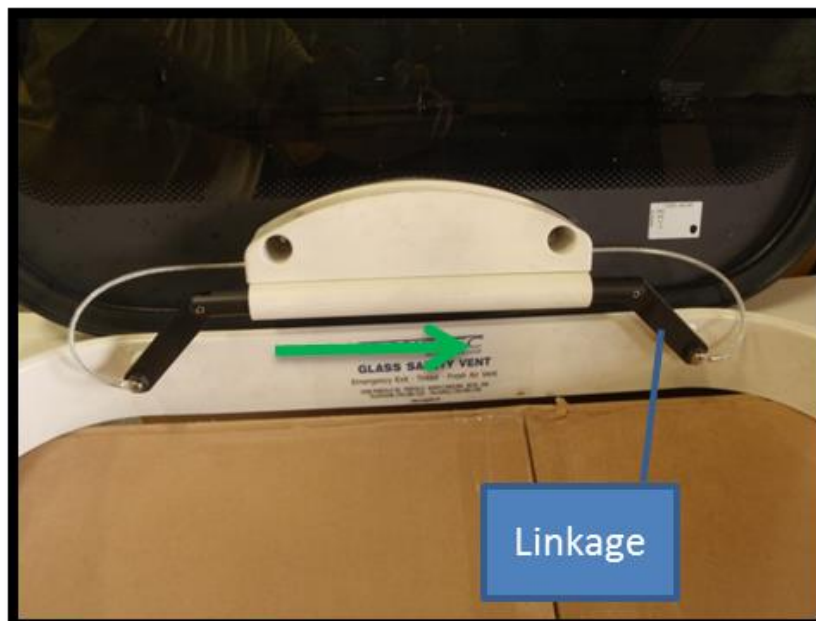

Figure 17: Slide the new lid onto the linkage, ensure that the two springs remain in the hinge.
8. From the interior of the bus, slide the new lid onto the linkage secured to the frame as depicted in Figure 17.